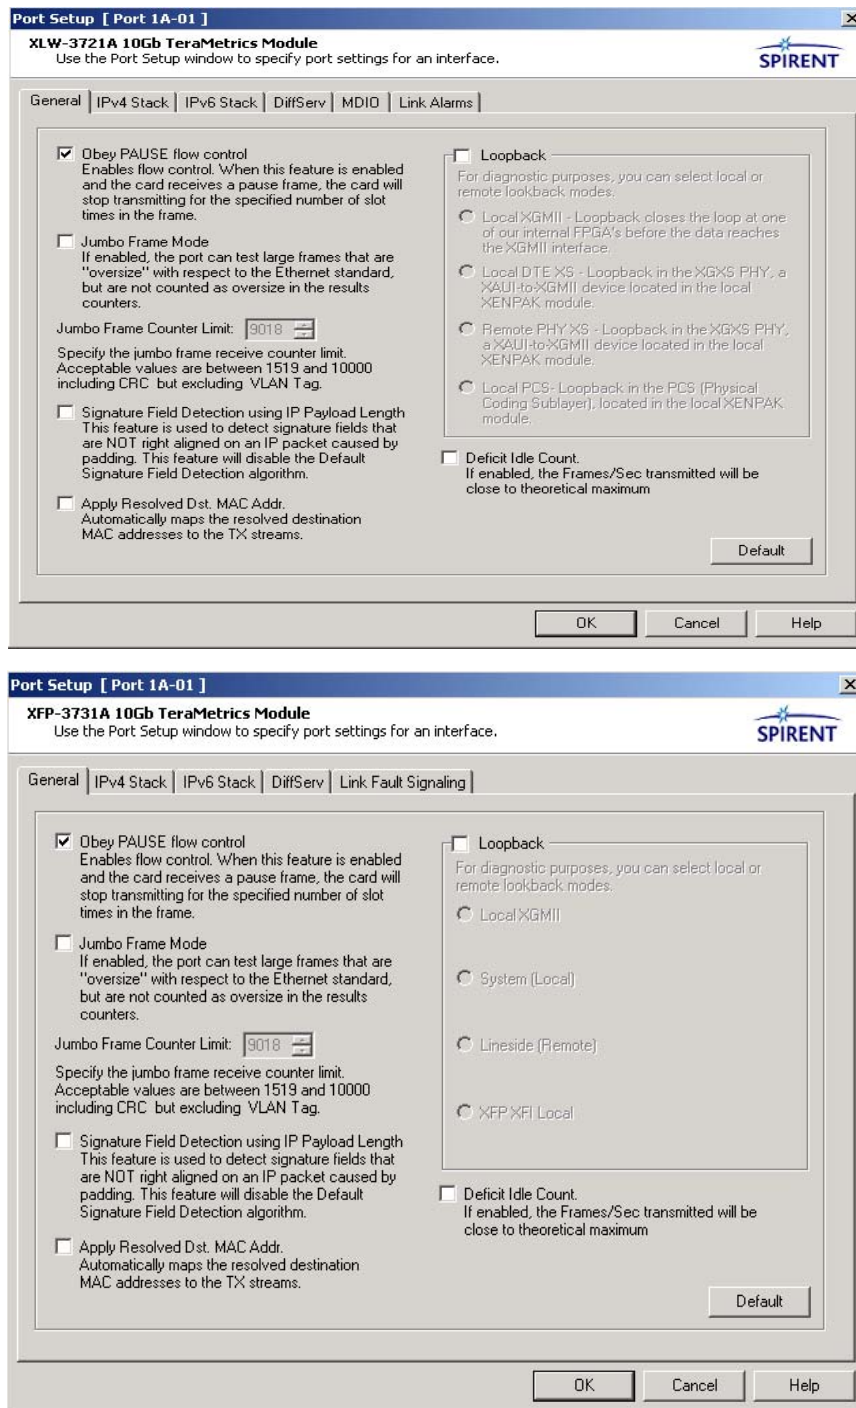

Figure 8-8. Port Setup-General Tab
- 3 Select **Port Setup**. *Figure 8-8 on page 327* shows the *Port Setup* windows for XLW and XFP modules.